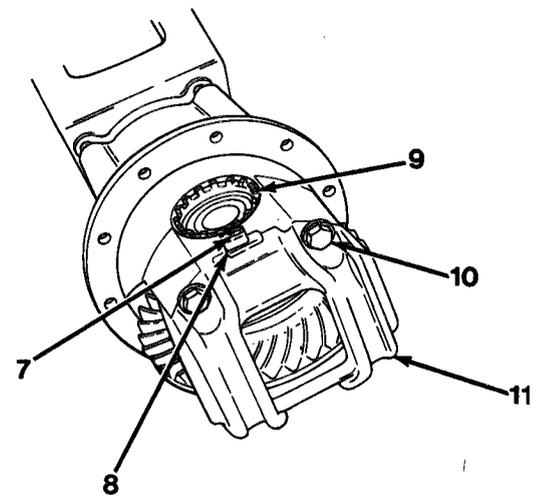

Figure 12-3
- h. Coat with Primer T and Loctite 222. Install adjusting nut lock (8) and bolt (7, Figure 12-3). Torque bolt (7) to 66 lb-in. (7.5 N•m).